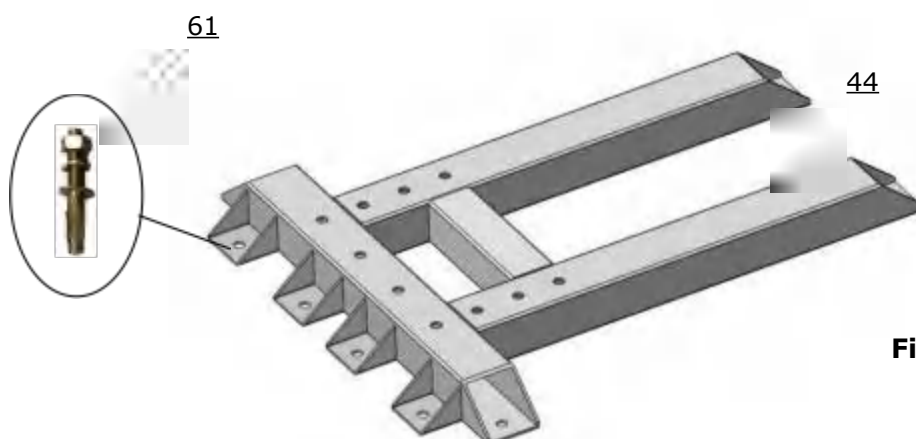

Fig.11
C. Confirm the installation position and place the base onto it. (See Fig.11)